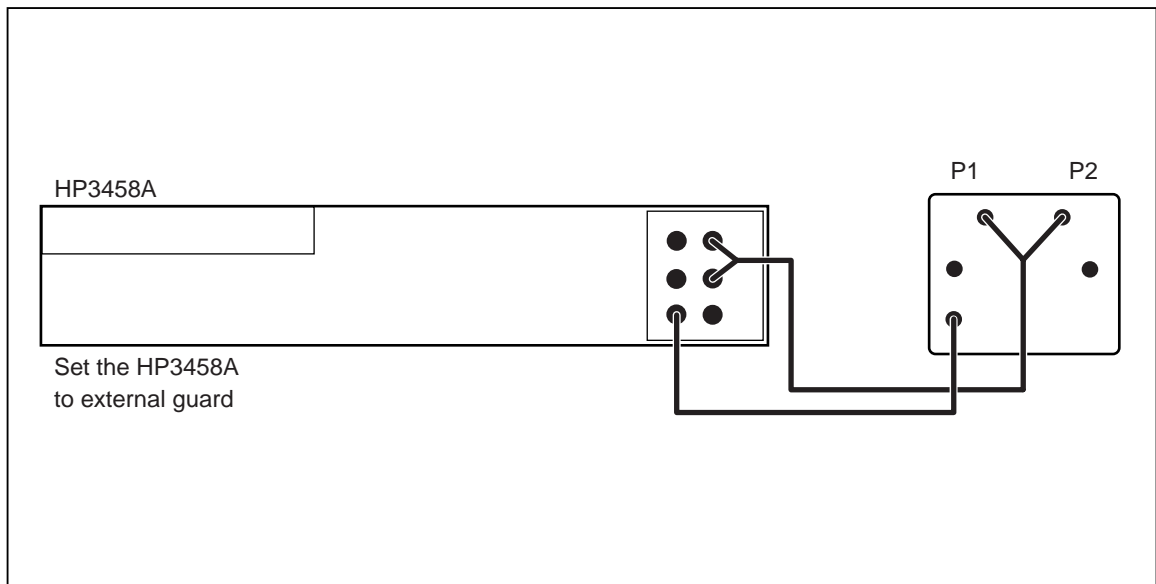

Figure 3-13. Scaling the DMM to a Guidline 9334
12. Disconnect the DMM from the UUT, and connect it to the Guildline 9334/100M Resistance Standard as shown in Figure 3-13. Scale the 100 M Ω DMM range to the Resistance Standard as described in the HP3458A user documentation.